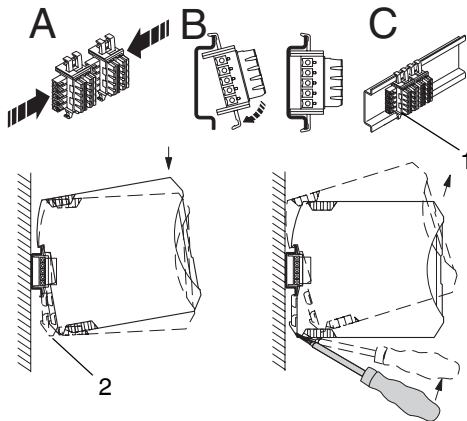

Figure 4 Assembly and removal
- When using the DIN rail connector, first place it into the DIN rail (see A – C, Figure 4). It is used to bridge the voltage supply and for error messages. Please also ensure you observe the direction of the module and DIN rail connector when snapping into position: Snap-on foot below (2) and connector left (1).